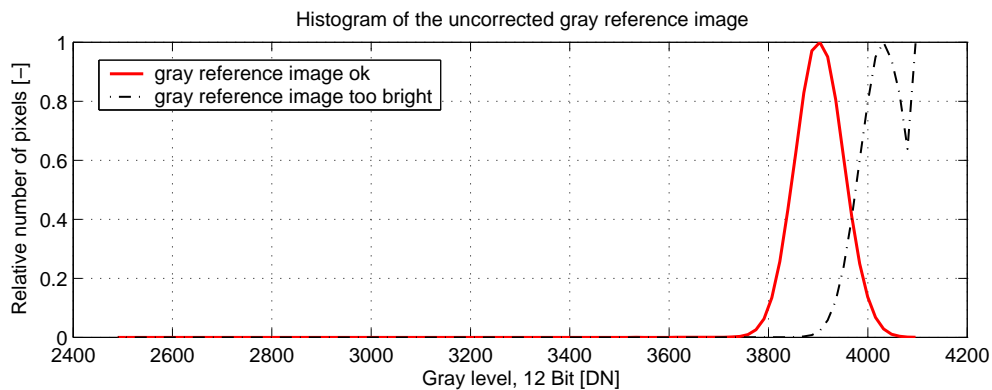

Figure 4.23: Proper gray reference image for gain correction
- When looking at the histogram of the gray reference image, ideally there are no gray levels at full scale (4095 DN @ 12 bit). All pixels that are saturated white will not be properly corrected (see Fig. 4.23).